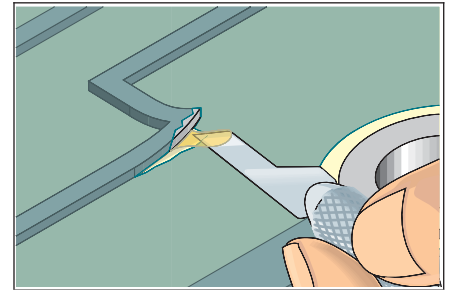

Figure 1 Apply a small amount of epoxy under the lifted conductor.
5. Carefully apply a small amount of epoxy under the entire length of the lifted conductor. The tip of a knife may be used to apply the epoxy. (See Figure 1.)